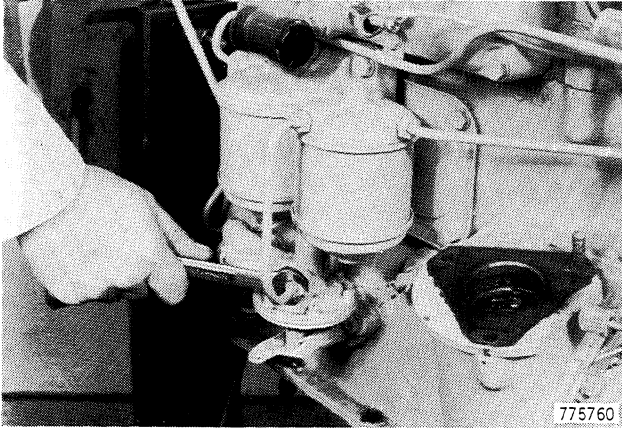

Figure 14
1. Disconnect the tube at the fuel feed pump, Figure 14.